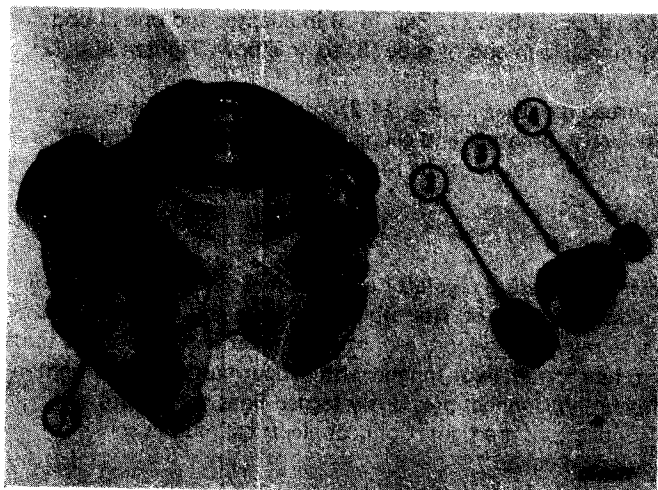

Figure 14-13
Hold nut (1, Fig. 14-13) on diaphragm end of spindle and remove nut (4) from other end. Remove seal retainer (3) and seal (2) from spindle. Slide spindle and diaphragm from body.
Slide spindle assembly into bore of body with locating hole in diaphragm over locating tube in body. Hold nut (1, Fig. 14-13) on diaphragm end and install seal (2), seal retainer (3) and nut (4). Tighten nut to recommended torque. Refer to "SPECIAL TORQUES" in this section.